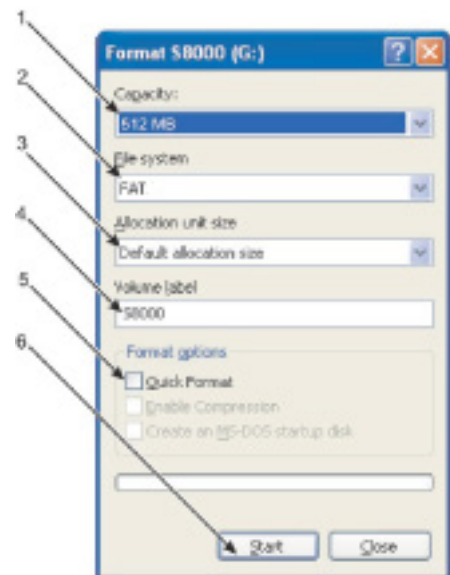
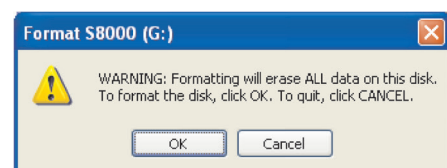

Figure 44 Set Format Properties
Figure 45 Format Disc
3. The **Format** dialog box is now presented as shown in *Figure 44*, and the disk capacity is reported on the top line (1). This will depend upon the type of disk used (512 MB in this example).
4. In the **File system** box (2), *Figure 44*, select **FAT**.
5. In the **Allocation unit size** box (3), leave this set to Default allocation size.
6. If required, in the **Volume label** box (4), enter a volume label e.g. Optisure.
7. The SD card requires a full format so leave the **Quick format** box (5) unchecked.
8. Click the **Start** button (6). The message (*Figure 45*) will now appear. Click **OK** to proceed.